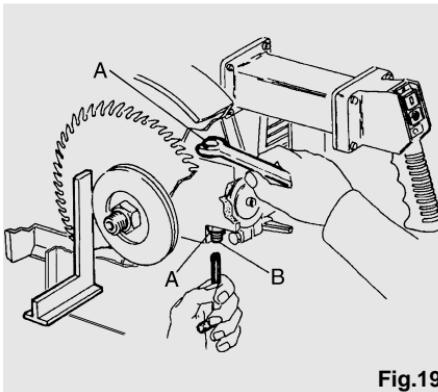

Fig.19
- Check, with a square, that the blade is perfectly perpendicular to the plane (see fig. 19). If not, turn the nut (A) with an open mouth key of 13 and the dowel (B) with a socket head screw. Loosen the upper dowel, tighten the lower one or viceversa, once you have set the perpendicularity, working becomes dangerous and this should be absolutely avoided.